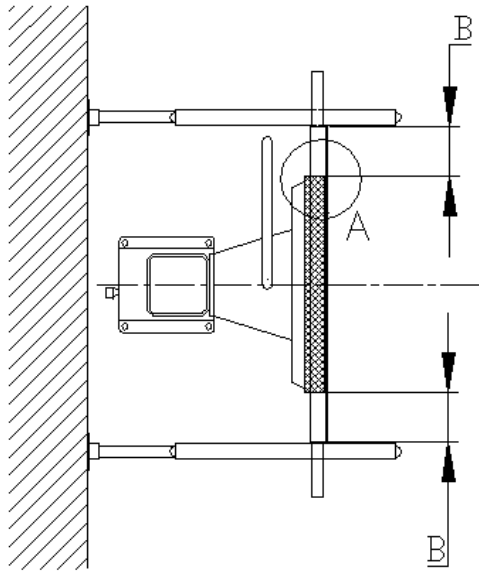

figure 7: *Position the stitch Frame U.*
- Centre the stitch frame in relation to the detector. Distance B is equal on both sides. (See Figure 7)